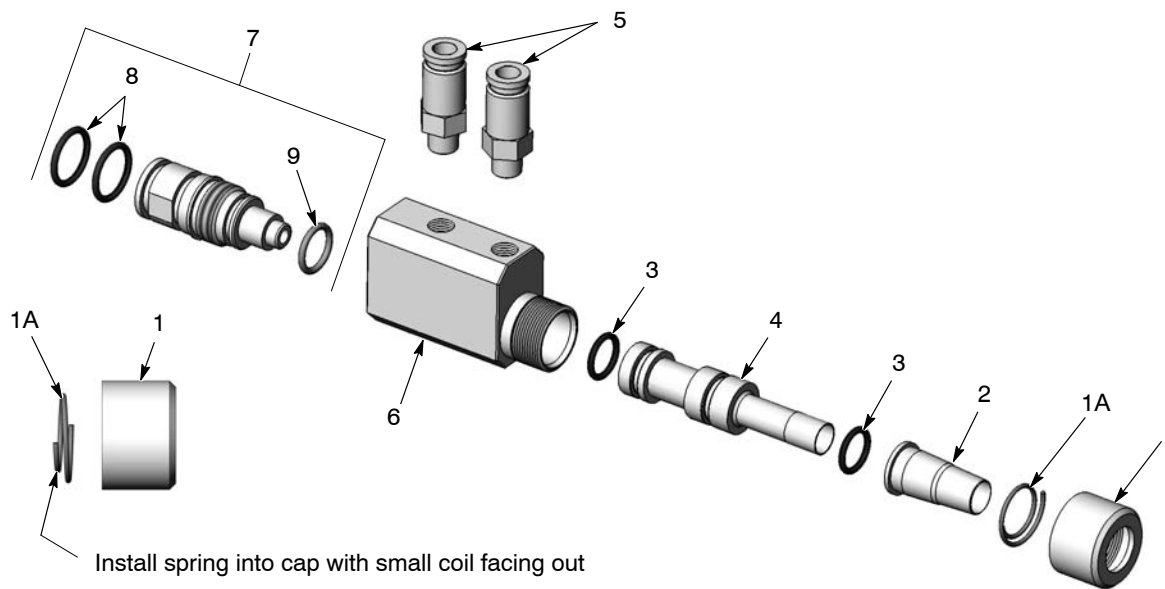

Figure 2 Inline Powder Pump Parts
1. See Figure 2. Unscrew and remove the cap (1) from the pump body (6).
NOTE: If the ground spring (1A) comes out of the cap, re-install it into the cap as shown in Figure 2 before re-installing the cap.